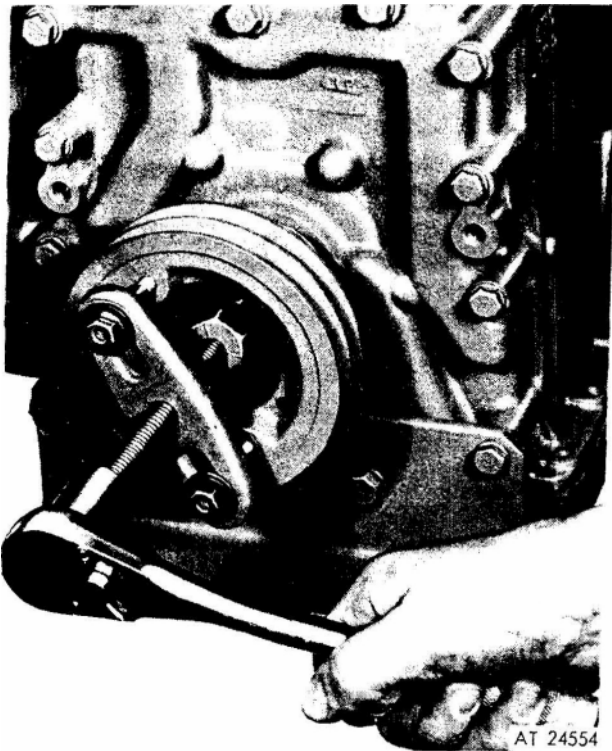

Figure 1. Removing crankshaft pulley using puller J 4794-01.
3. If a rigid type pulley is being removed, install the pulley retaining bolt and puller J 4794-01 as shown in figure 1. Then force the pulley off the crankshaft by turning the puller center screw in.